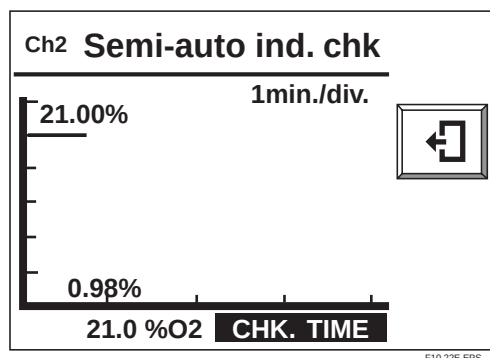

Fig.10.22 Indication Check Graph
- 4) When you select [Start ind. check] the [Semi-auto ind. chk] trend graph of Fig 10.22 is displayed, and Span indication check begins.